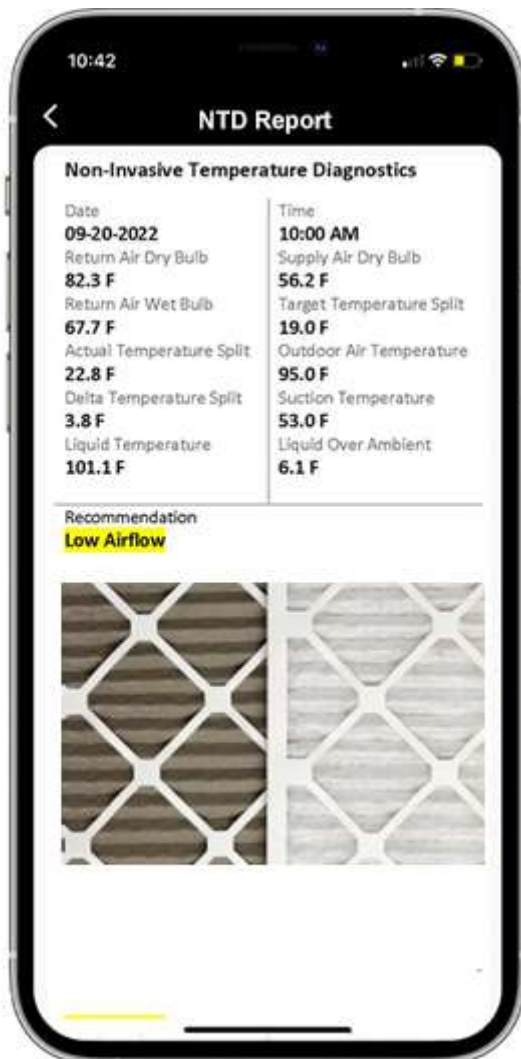
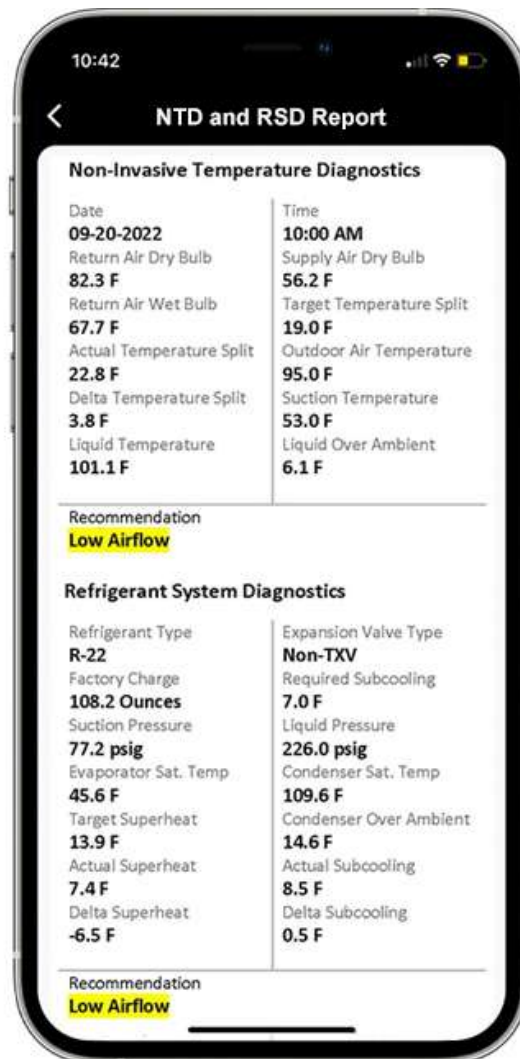

Figure 3.5 NTD Low Airflow
Figure 3.6 NTD and RSD Low Airflow
Figure 3.5 shows the NTD method detecting low airflow and Figure 3.6 shows the NTD and Refrigerant System Diagnostics (RSD) methods detecting low airflow. The RSD method requires two (2) separate compound digital pressure gauge manifolds (one for R22 and one